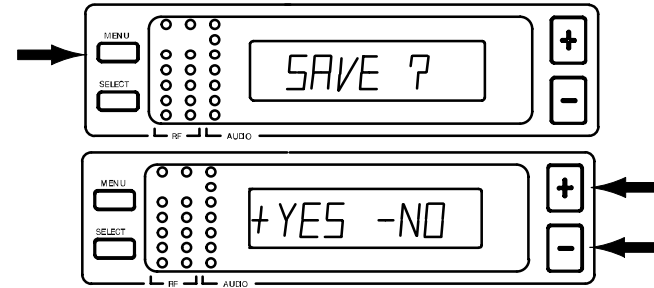

FIGURE 24
- When the new name has been completely entered, press the MENU button. "SAVE?" will appear, followed by "+ YES - NO". Press the "+" button to save the new name and return to the Group/Channel/TV display. Press the "-" button to make more changes. See Figure 24.